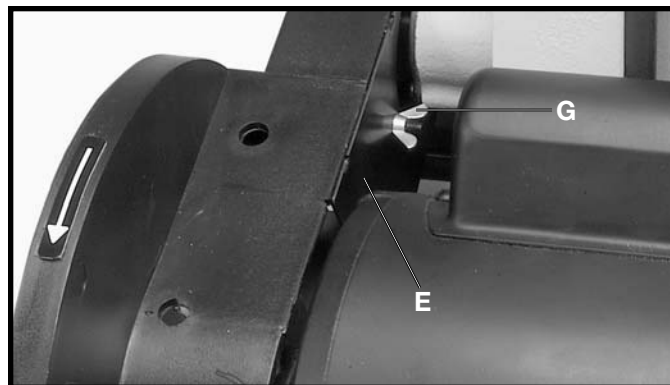
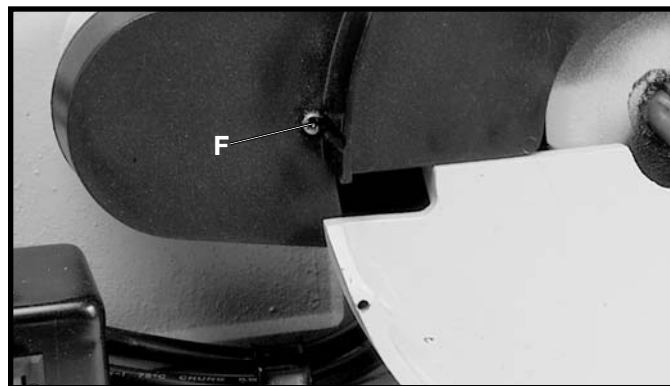

Fig. 6
Fig. 7
3. Assemble the inside guard (E) Fig. 6, to the guard assembly using a M4x45mm cheese head screw (F) Fig. 7, and M4 wing nut (G) Fig. 6, as shown.